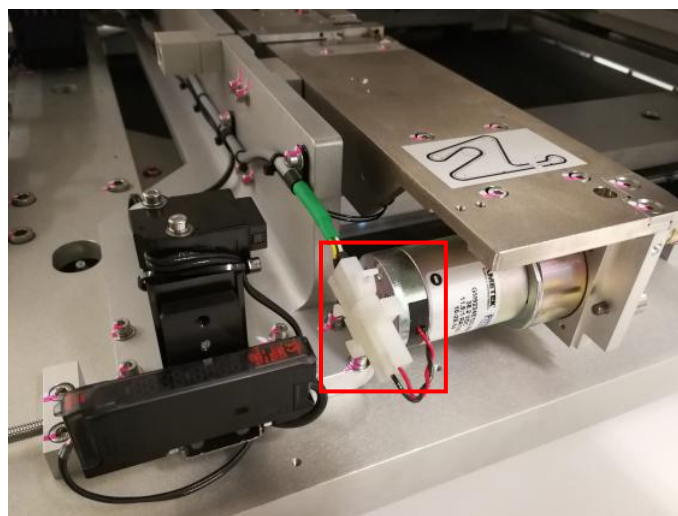

Figure 11 Conveyor Motor Connector
5. Plug Conveyor Connector as shown in Figure 11.